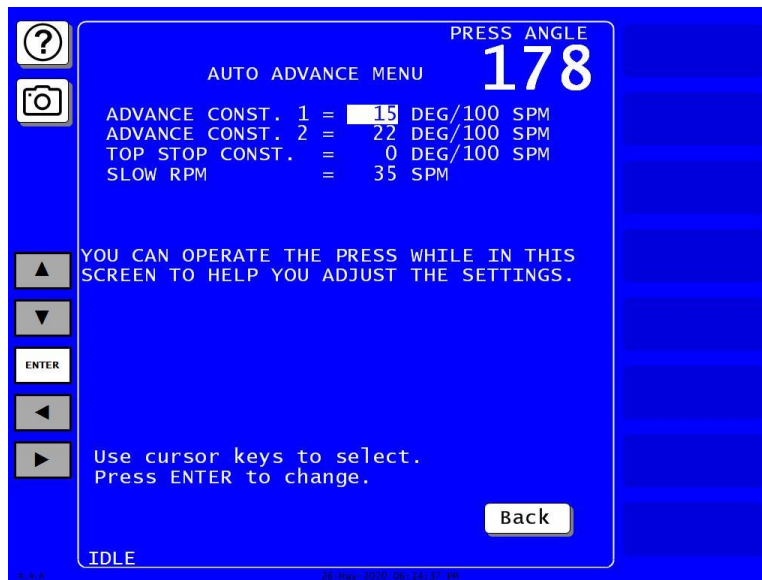

Figure 7-3. Auto Advance Menu
The Auto Advance menu (Figure 7-3), accessed from the Main Initialization Menu, enables you to set parameters that control the timing for up to two cam channels that are programmed as Auto Advance.
1. Select AUTO ADVANCE on the Main Initialization Menu. The Auto Advance Menu appears, Figure 7-3.